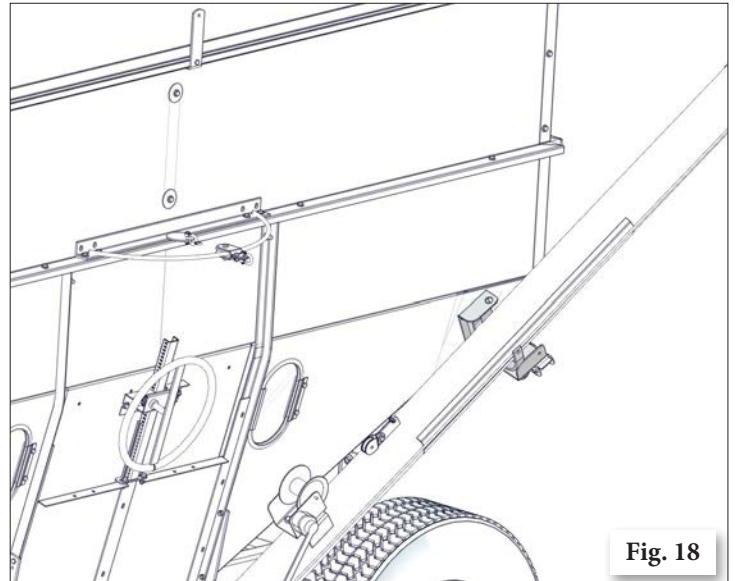

Fig. 18
- Place the Auger Transport Bracket in position according to Fig. 18.